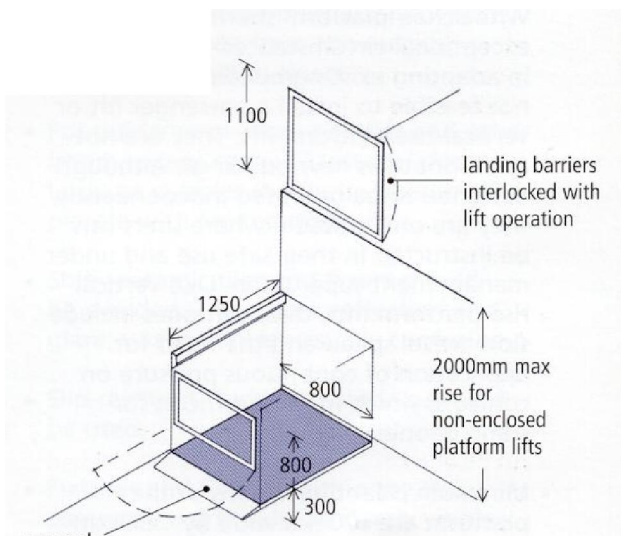

Figure 31
- The platform needs to be large enough to accommodate a range of users. A larger platform may be required for powered wheelchairs or accompanied wheelchair users (Figure 31 for dimensions).